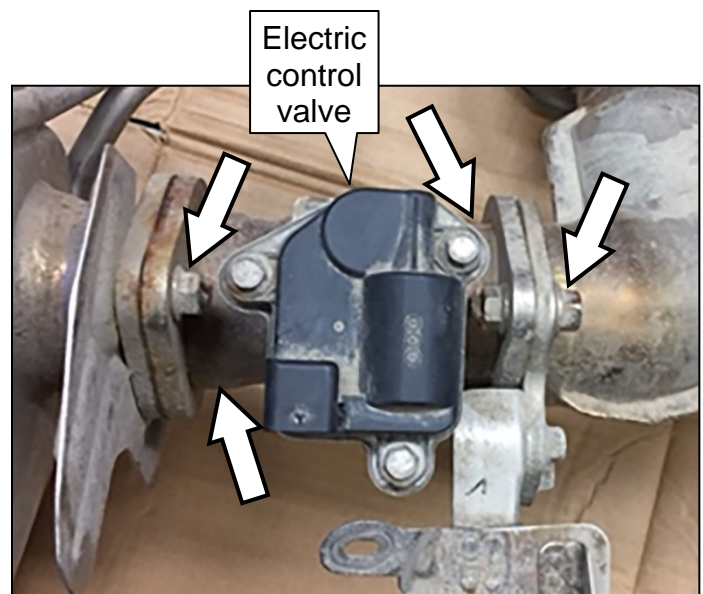

Figure 2
- Two of the nuts and bolts are hidden in Figure 2.